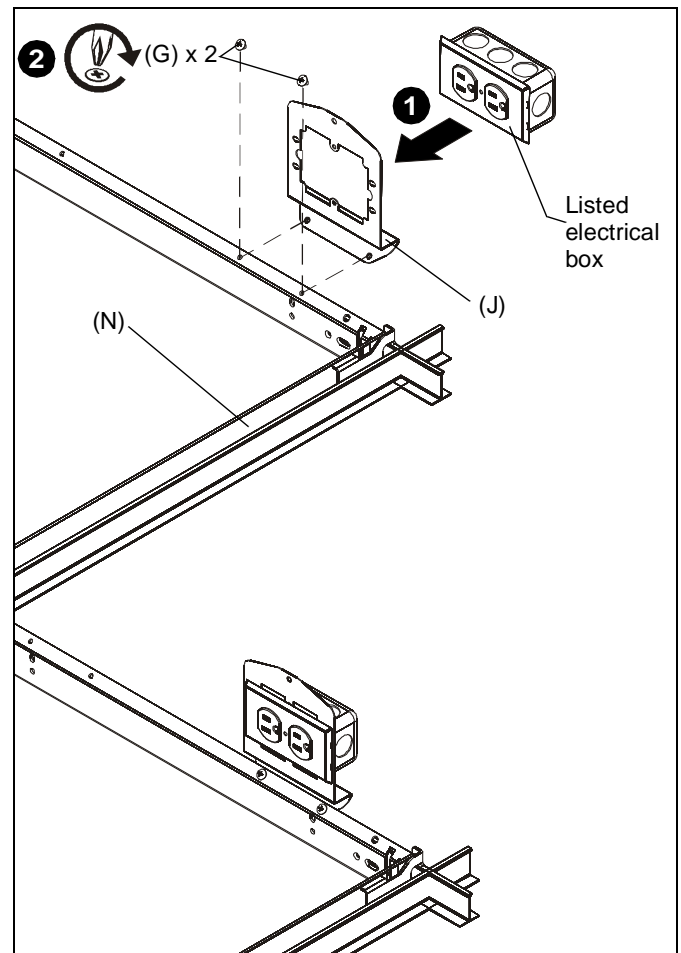

Figure 9
1. Install Listed electrical box (not included) to outlet box attachment plate (J).
2. Install the plate (J) with attached electrical box onto the CMS490 frame (N) using two 8-32 x 1/4" Phillips screws (G). (See Figure 9)